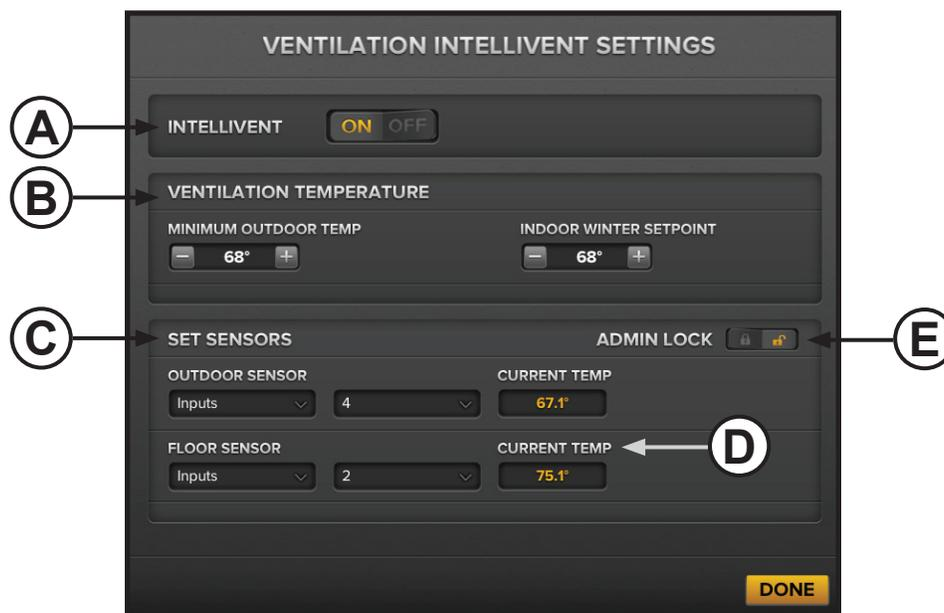

Figure 6—Ventilation IntelliVent Settings page
4. Next to IntelliVent Changes, touch **Edit**. The Louvers IntelliVent Settings or Ventilation IntelliVent Settings page appears (Figure 6). *Note: The Ventilation IntelliVent Settings page is shown in Figure 6. The settings are the same for louvers.*
5. Configure the settings, and then touch **Done**. See Figure 6 below for settings details.